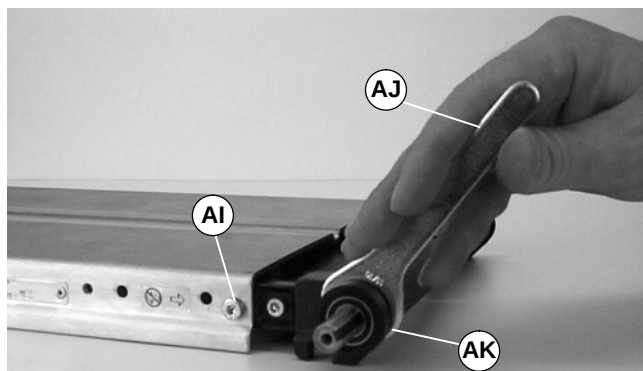

Figure 29
2. For 10" (254 mm), 12" (305 mm) or 18" (457 mm) wide conveyors, use the narrow-headed 11/16" wrench (part # 808-1043) (AJ of Figure 29) to remove the outboard bearing (AK).
3. Remove screw (AI).